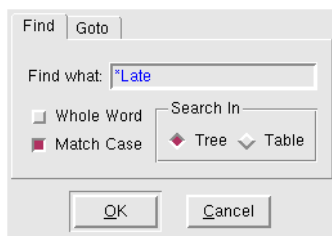

Figure 13 Find dialog box
- Find and Find Next** Matches the pattern entered against parameter names according to the selected options. Patterns can include regular Tcl expressions. The match is highlighted when found (see Figure 13).